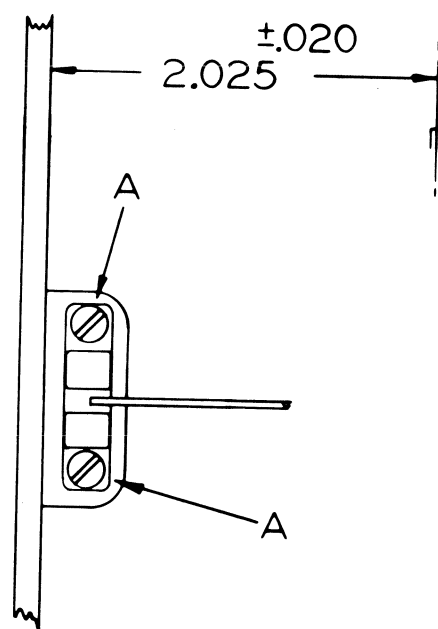

FIGURE 7-11
- (2) Use a graduated rule to measure the distance between the axis of the printhead and the left chassis side plate, as shown in Figure 7-11. Visual accuracy is acceptable. The adjustment should be correct within ± 0.020 ".
- (3) If the dimension observed is not within the specified tolerance, loosen the two retaining screws that hold the sensor unit in place.
- (4) Re-position the sensor to correct for the observed error, and tighten the two retaining screws.
- (5) Repeat Steps #1 through #4, until the proper geometry is obtained. This completes the adjustment of the optical stop.